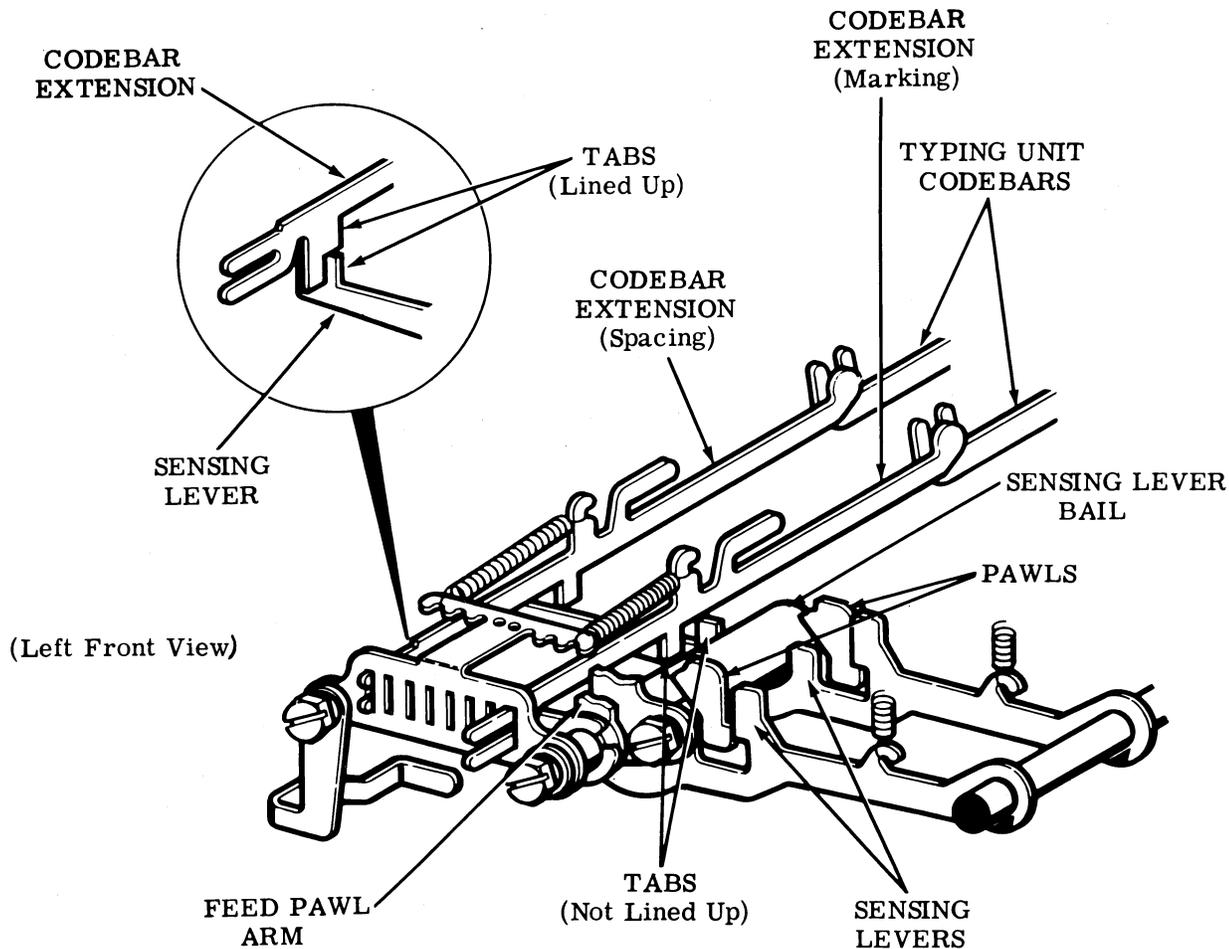

Figure 4 - Intelligence Transfer Mechanism
4.02 There is a codebar extension (Figure 4) for each typing unit codebar. Motion, during codebar re-setting, is imparted to the codebar extensions by the codebars through the typing unit reset bail. A plate mounted to the tape punch casting guides the codebar extensions.